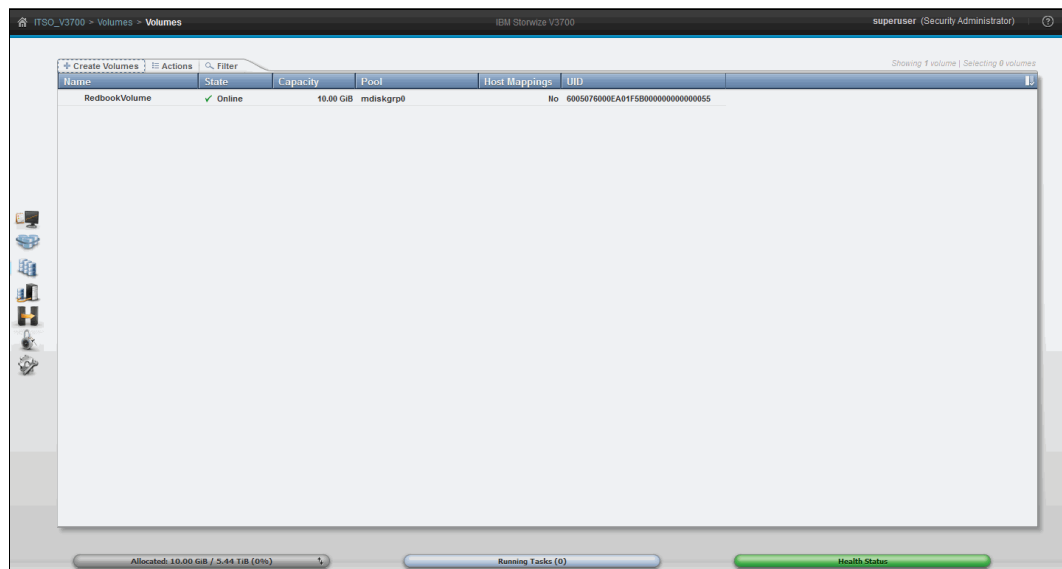

Figure 5-7 The Volumes view with the newly created volume listed
8. Click **Close** to return to the Volumes view, which now lists your newly created volume, as shown in Figure 5-7.